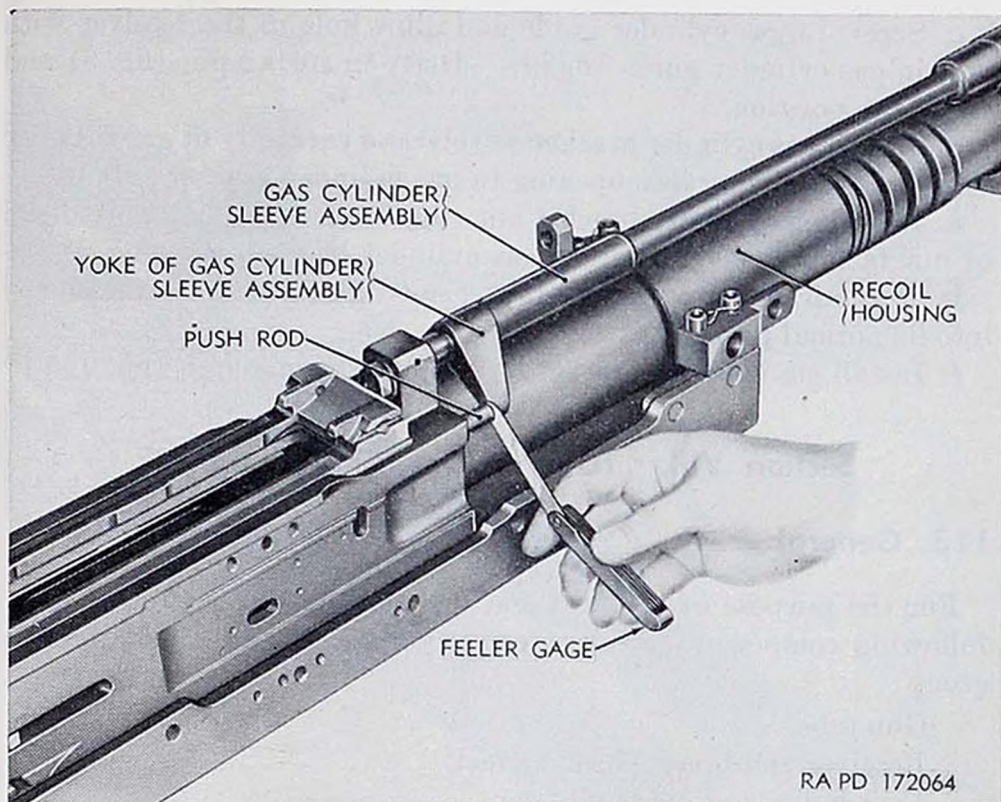

Figure 115. Measuring clearance between push rods and yoke.
e. Check for free movement of push rods in receiver. Replace any push rods showing evidence of peening. A variation of clearance in excess of 0.004 inch measured between the forward end of the push rod and rear end of yoke of gas cylinder sleeve assembly (fig. 115), with the bolt in place, is not acceptable. Equalization may be attained by loosening gas cylinder bracket screw and moving bracket to desired location. Sleeve assembly must have free movement at all times.
f. Check movement of push rods in receiver. Remove all burs from push rods. Replace any push rods showing evidence of peening. A variation of clearance in excess of 0.004 inch measured between the forward end of the push rod and rear end of yoke of gas cylinder sleeve assembly (fig. 115), with the bolt in place, is not acceptable. Equalization may be attained by loosening gas cylinder bracket screw and moving bracket to desired location. Sleeve assembly must have free movement at all times.